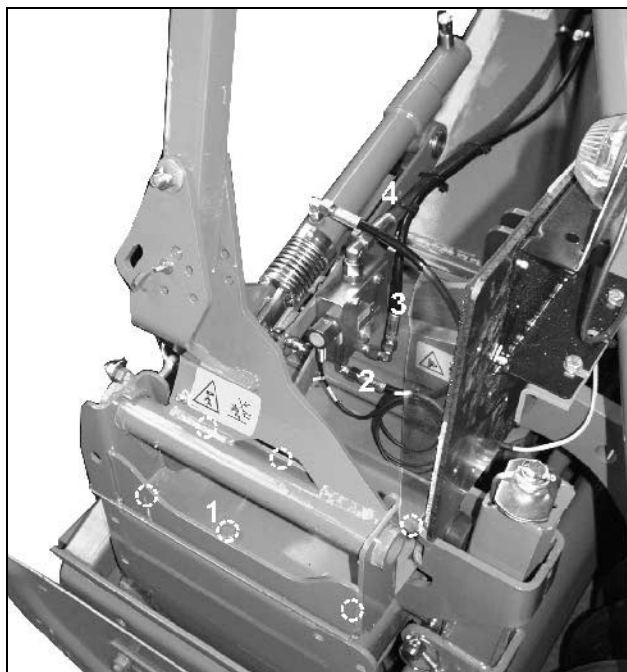

Fig. 40
- Bolt the track markers on the left and right hand side with each 6 bolts (Fig. 40/1) on to the KG/KE.
- Connection track marker left hand side (Fig. 40/2).
- Connection track marker right hand side (Fig. 40/3).
- Connection control spool valve tractor (Fig. 40/4).